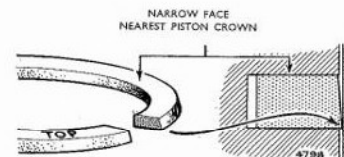

Fig. B.44. Correct assembly of the second compression ring to the piston body
**2. Second Compression Ring (Taper Faced).** To provide more rapid "running-in", a tapered compression ring is fitted in the second groove from the top of both standard and oversize pistons. It is most important that this piston ring is correctly fitted with its narrow face towards the top of the piston. This face of the ring is marked "T", or "TOP" to indicate the narrow edge (see Fig. B.44). Incorrect fitting will result in higher initial oil consumption.
The taper faced compression ring can be identified by the letter "T", or "TOP" stamped adjacent to the ring gap (see Fig. B.44). When fitted to the piston this identification on the piston ring must be to the top. Smear the piston and rings with lubricant.